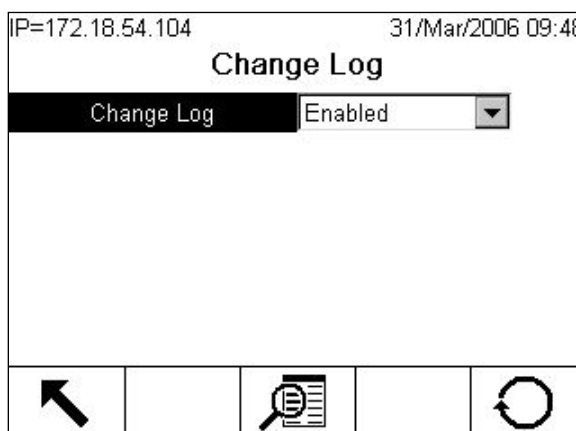

Figure C-29: Change Log Configuration Screen
The Change Log in the IND780 terminal file tracks all intentional changes to system configuration parameters. The Change Log can be enabled or disabled in Setup at **Maintenance > Configure > Change Log**. Figure C-29 shows the Change Log configuration screen.
1. Press the SETUP soffkey  and select the **Maintenance > Configure > Change Log** node (see Figure C-29).